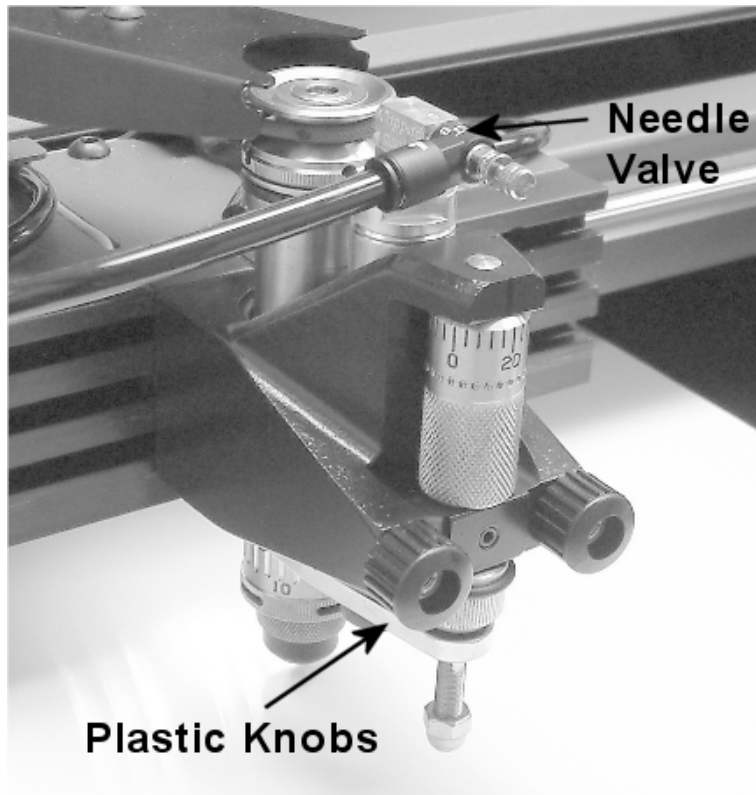
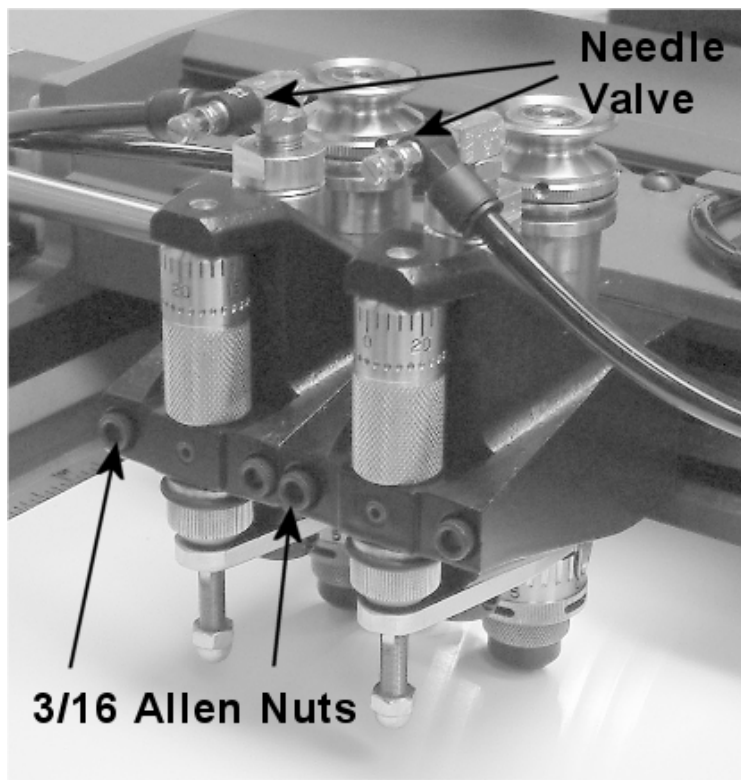

Figure 1
Figure 2
3. Secure the spindle to the T-slot. The larger plastic knobs provided with the 11/64 spindle to secure to the table's T-slot. The larger plastic knobs are intended for use with single rotary applications and or with a diamond spindle (Figure 1). The Allen nuts are intended to be used with two or more rotary spindles (Figure 2). The provided 3/16 hex key is used to secure the set used with applications requiring two or more spindles